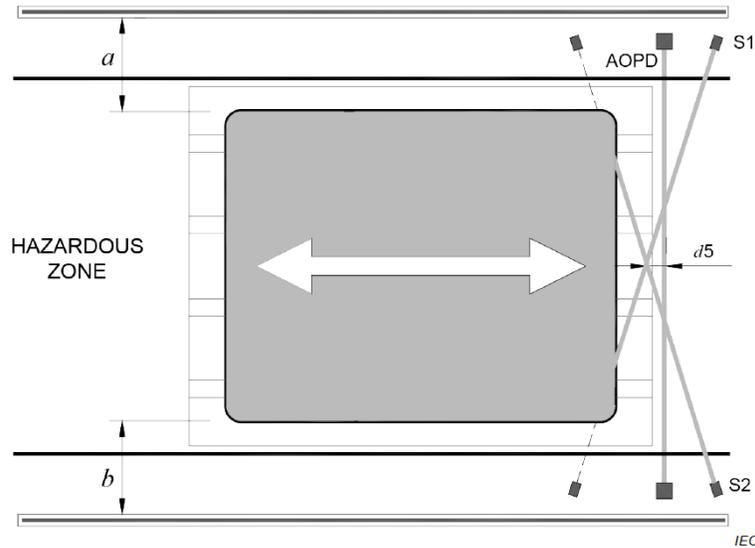

Figure D.17 – Two sensors – Crossed beams
- Two beams with timing control. Used for entry and exit applications and named 'T configuration with timing control'. The T configuration is shown schematically with the relevant distances in Figure D.17 of IEC 62046: